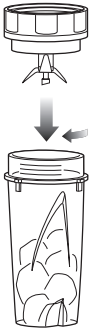

Fig. 1
- 3 Place the single serve blade onto the cup and screw it tightly until you have a good seal. (Fig. 1)
- 2 Align and lower the bowl onto the motor base. (Fig. 1) Handle should be aligned slightly to the left of the "LOCK" symbol on the motor base.
- 3 Rotate the container to the left as far as it will go to lock in place. (Fig. 1)